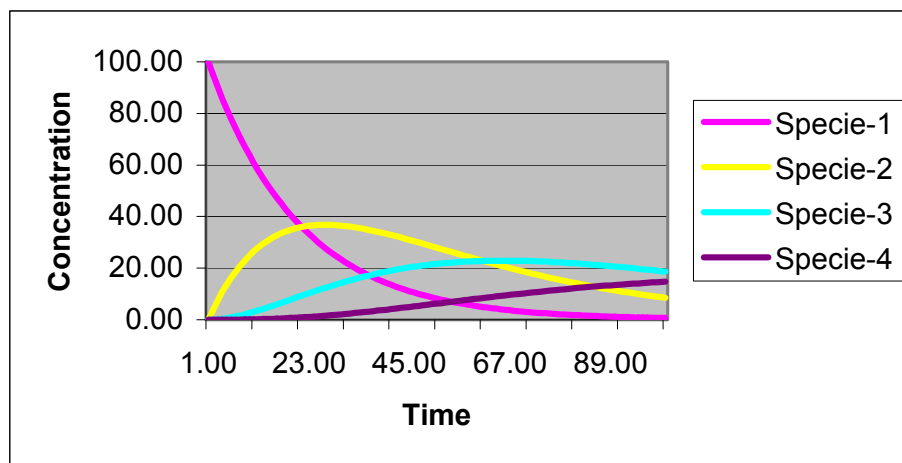

Figure 1. Sample Output from the BATCHRXN Code for the Sample Problem.
After reading the input, BATCHRXN will execute and create an output file called batchrxn.out. The output file will contain a set of white-space separated ASCII data in column format (written using the Format statement 21E15.5). For our example problem, five columns are output: Time, specie-1 (PCE), specie-2 (TCE), specie-3 (DCE), and specie-4 (VC). Use any spreadsheet software such as *Excel* to plot and analyze this output data. The BATCHRXN output results for the example problem are shown in Figure 1.